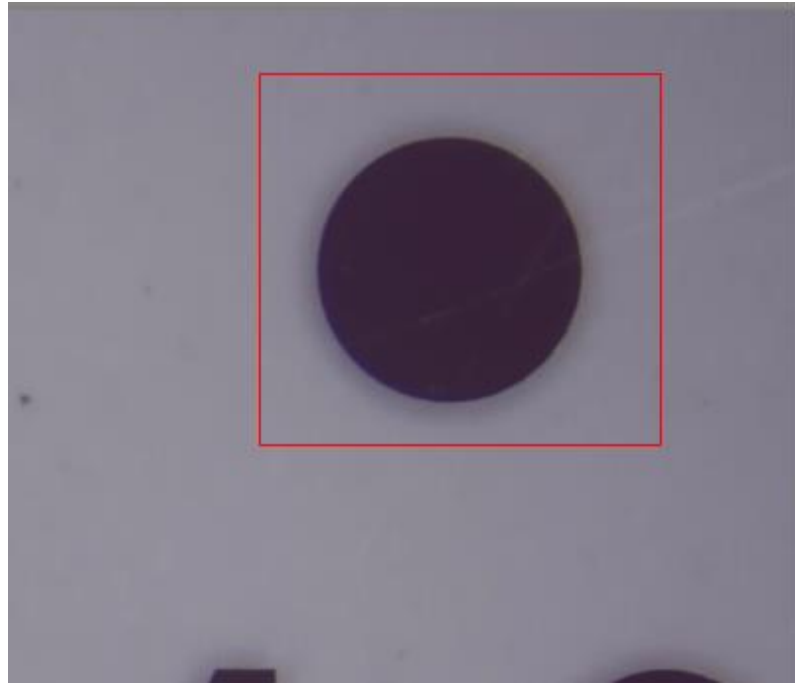

Fig. 5-17 Lock Circle
- (14) Auto Circle Detect : Automatically lock and measure Circle that can apply  tool. On the target Circle, draw an area to fully cover it, it will automatically measure the circle as Fig. 5-17, 5-18 shown.